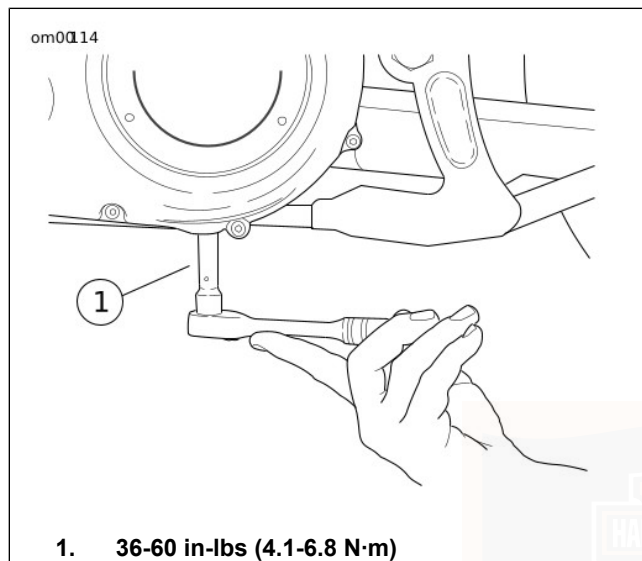

Figure 57. Removal/Installation of Chaincase Drain Plug
3. See Figure 57. Remove magnetic drain plug at bottom of primary chaincase cover. Drain lubricant into suitable container.